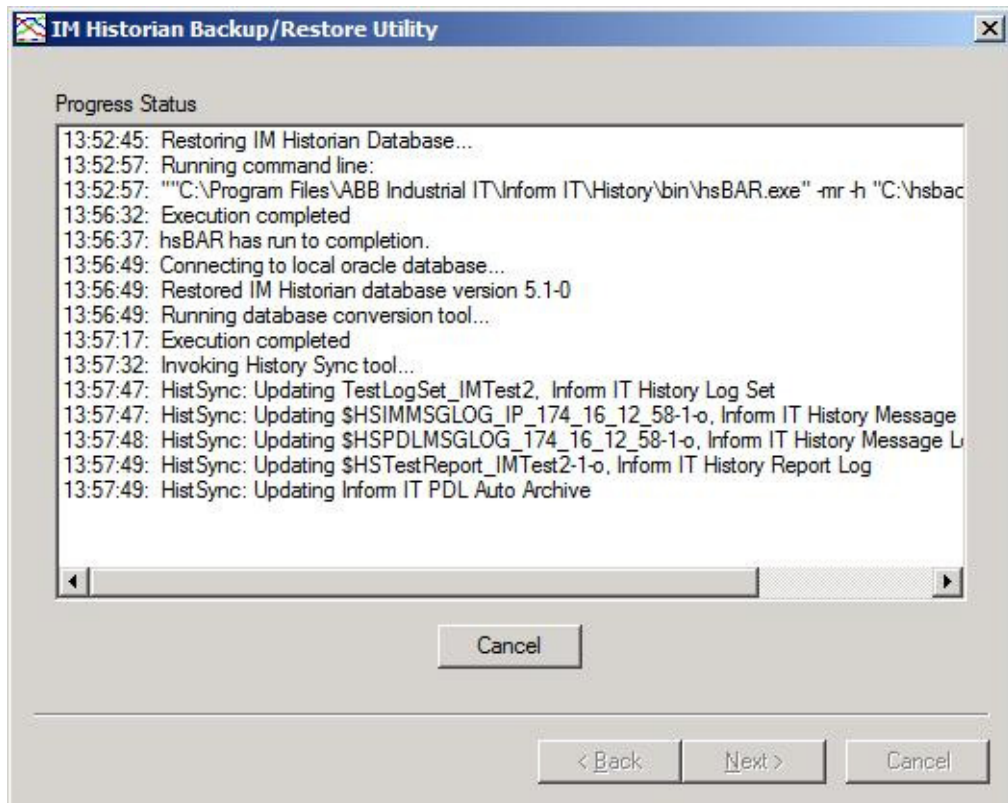

Figure 305. Progress Status Window
7. After the HsBAR window is closed, monitor the Progress in the Progress Status window, Figure 305. Ignore the error messages that indicate *error deleting aspect*.